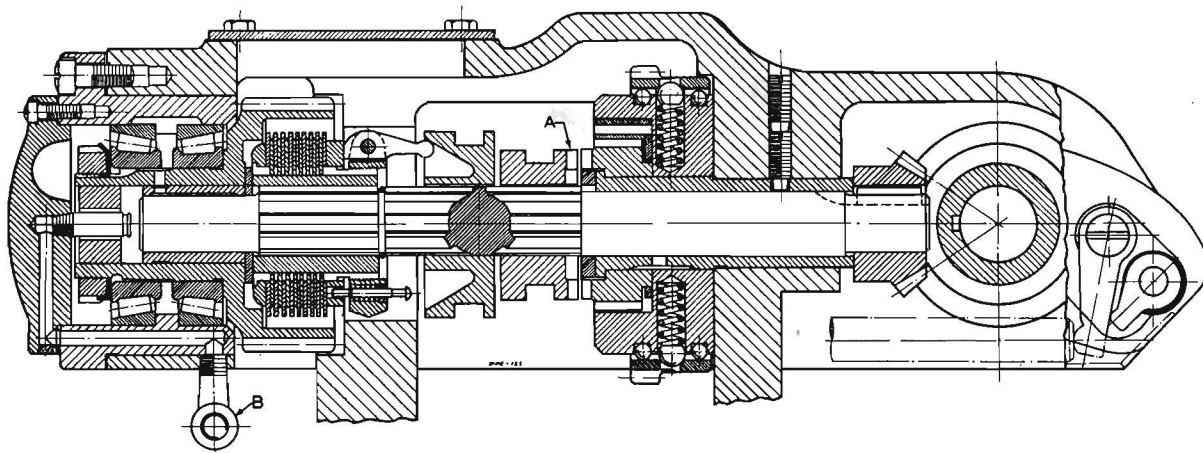

FIGURE 23
**NOTE:** When re-assembling, clean surfaces thoroughly and re-seal with G. E. 880 or its equivalent to prevent oil leaks. In re-assembling feed box to column, put spindle starting lever in engaged position. Set Clutch "A", Figure 23, so that clutch teeth are together. In other words, clutches should be set tooth on tooth. This will prevent pin in clutch link from hitting interference block in feed box and bending clutch link. Make sure oil tube at rear of feed box enters the street ell "B" in feed box.